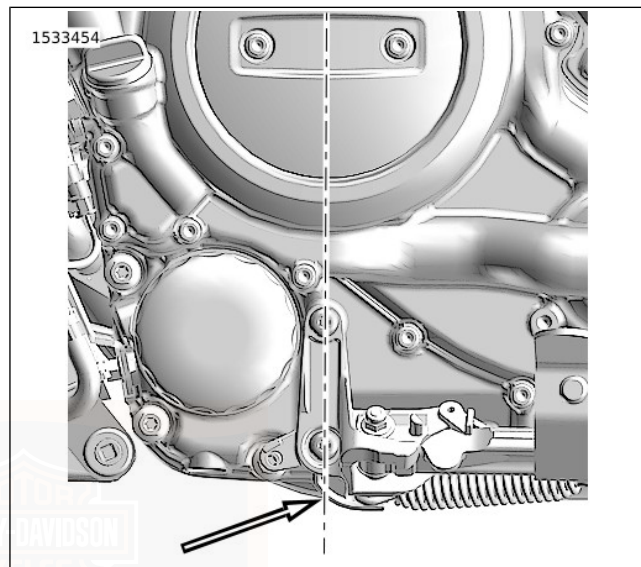

Figure 41. Crankshaft Centerline
- See Figure 41. When lifting motorcycle from underneath, always lift directly below crankshaft centerline with wood between motorcycle and lift.